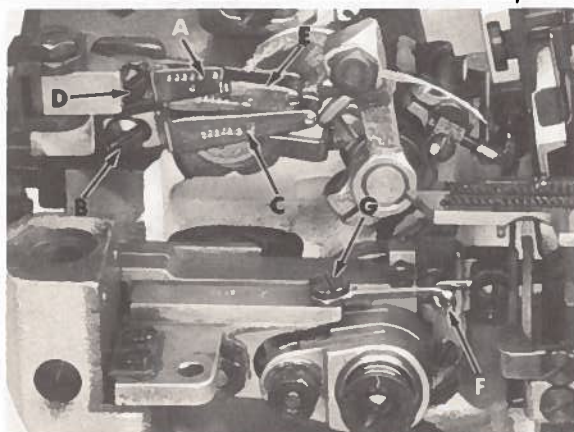

Fig. 25
will be a little slack when needle(s) is at highest position (lower looper thread only for Styles 39500 XQJ, XRN, XSD, CXQJ, CXRN, CXSD). The auxiliary upper looper thread guide (A, Fig. 25) should be centered in its adjusting slot and set slightly above a horizontal position. Loosen screw (B, Fig. 25). Center lower looper thread eyelet (C) in its adjusting slot and set eyelet in a horizontal position.